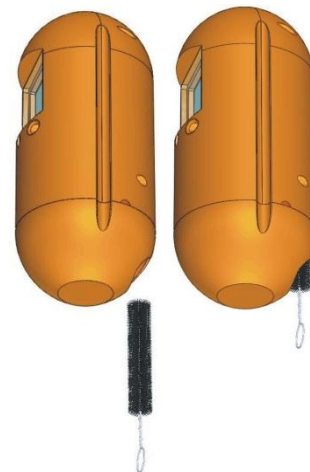

Figure 27 – CastAway Cleaning Brush
- Insert brush into the bottom of the cell and gently move back and forth (Figure 27).